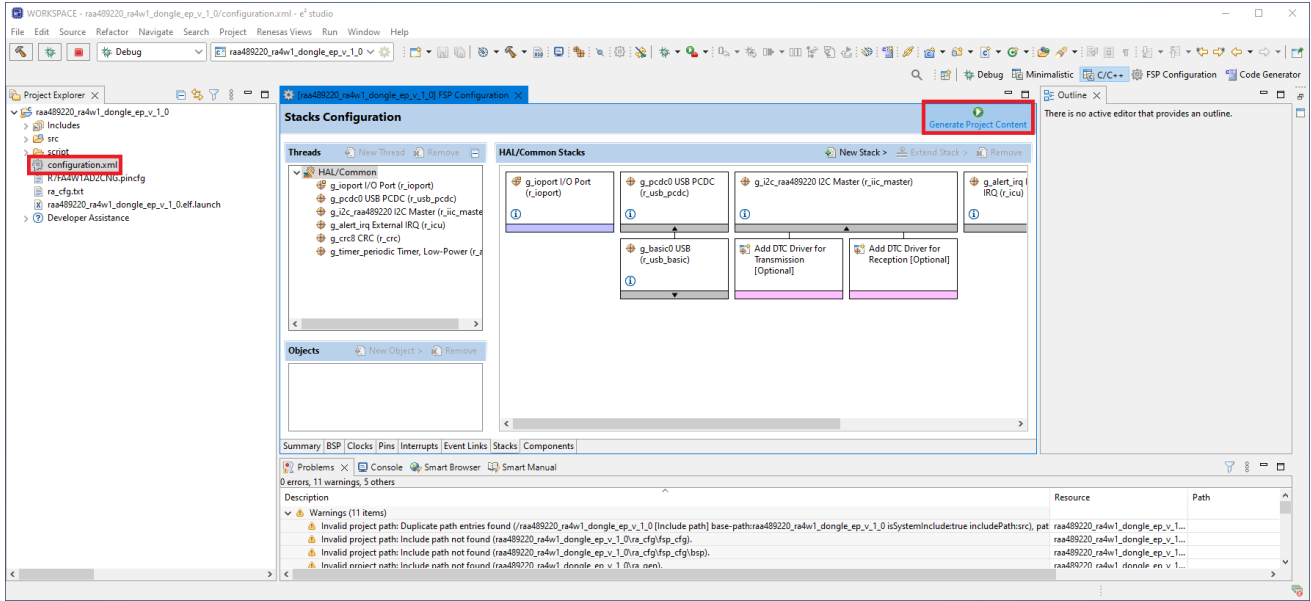

Figure 5. Generation of Additional Project Files
- The project is imported into the e2 studio workspace, and Figure 5 shows the imported project structure. Double-click on **configuration.xml** to open the FSP Configurator. Click the **Generate Project Content** button to generate the hardware specific project files that are needed to run the project on the selected hardware. The project is ready to be built.